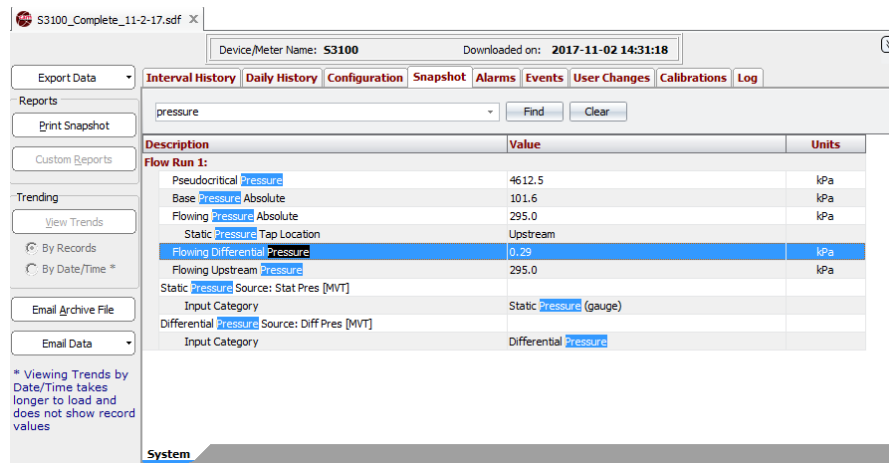

Figure 2.22—Snapshot report after search
1. Click in the search field (Figure 2.22, page 29) and enter the search word or phrase.